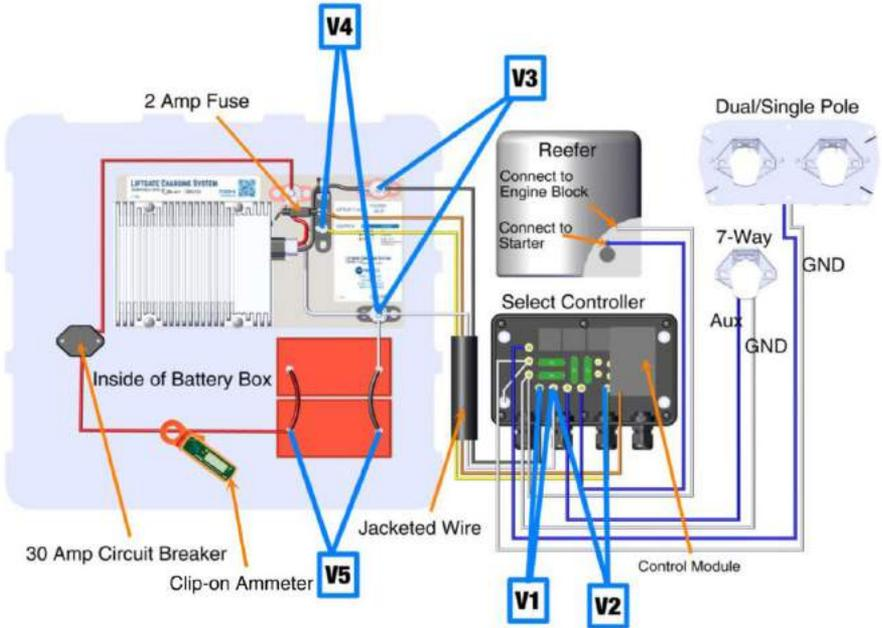

Figure 22
Step 1: Look at the Source LEDs on the Select Controller and ensure that one of them is Solid Green. If no, refer to the Stinger, Reefer, or Aux Diagnostics sections. If yes, measure the voltage at the DC/DC Converter Input (+) stud and Ground (-) Liftgate Battery (Fused) stud (see V1 on Figure 22). Voltage should be over 10.0 volts. If yes, go to step 2. If no, check 30 amp maxi fuses for the ground, stinger, reefer, and aux. If fuses are good, and voltage is still below 10.0 volts, replace the Control Module. If, after replacing the Control Module, the system still does not function properly, replace the Select Controller.
Step 2: With a voltmeter, measure the voltage at the ignition output (see V2 on Figure 22). Should be over 10.0 volts. If yes, skip to step 3. If no, replace Control Module.
Step 3: With a voltmeter, measure the input and ignition voltages at the P1020-K Liftgate Charging System Plate Assembly (see V3 and V4 on Figure 22). Both should be over 10.0 volts. If no, repair or replace the wires between the Select Controller and the P1020-K Liftgate Charging System Plate Assembly. If both voltages are over 10.0 volts, move to reference 13.
- A. Measure the voltage at the liftgate batteries (see V5 on Figure 22). If higher than 14.0 volts, the charging system is functioning properly.
- B. If the voltage at the liftgate batteries is below 14.0 volts, use a voltmeter to monitor the voltage at the liftgate batteries for 2–5 minutes (see V5 on Figure 22). If the voltage rises, the DC/DC converter is functioning properly; allow time for the batteries to charge.
- C. Using a clip-on ammeter, measure current flow (see clip-on ammeter on Figure 22). If above 10.0 amps, the system is working. Allow time for the liftgate batteries to charge.